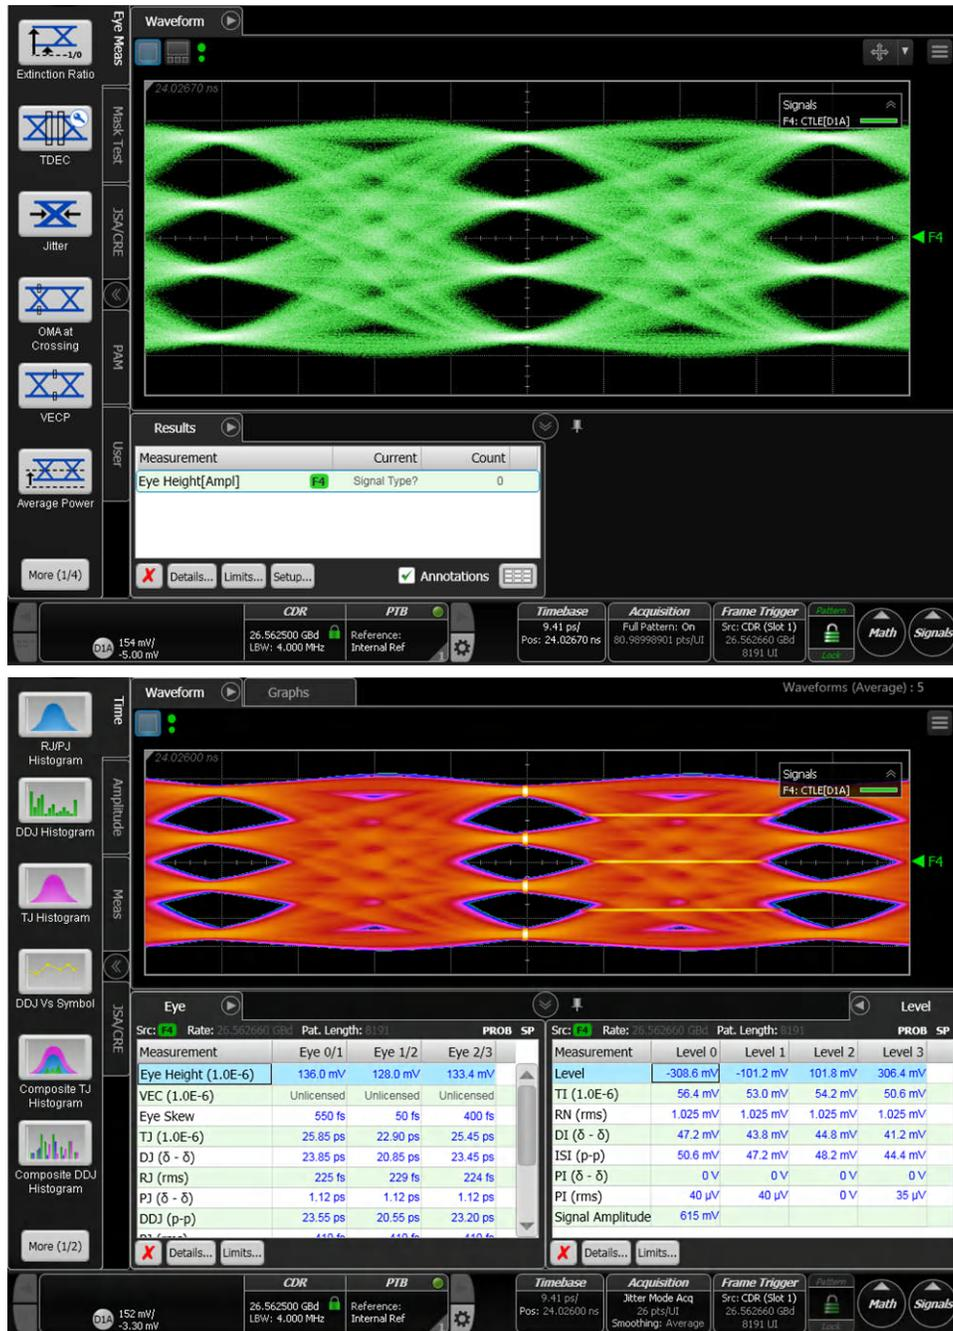

Figure 3-3. TX Output Eye Diagram and Jitter Measurements
11. Using the "CHANGE TX-FFE" code block of `usefulFunctions.py`, tune the FFE taps while visually inspecting the output eye to optimize performance. For the results shown in Figure 3-3, settings of `pre=2` and `post=4` were used.
The TX output eye test was performed on the TIDA-060043 board according to the procedure outlined in Section 3.3. The resulting output eye and jitter measurements are shown in Figure 3-3.